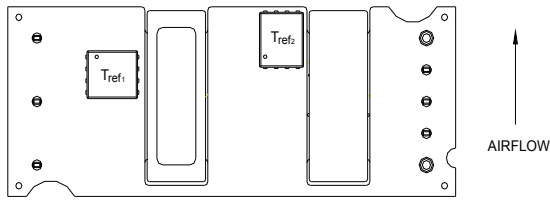
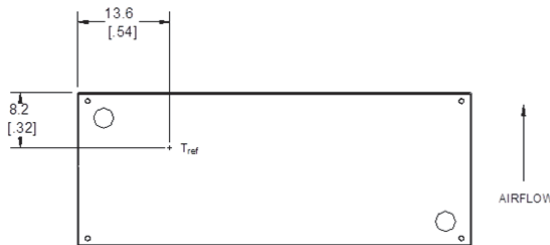

Figure 13.  $T_{ref}$  Temperature Measurement Locations for Open Frame Module.
Figure 14.  $T_{ref}$  Temperature Measurement Location for Module with Heatplate.
To provide protection under certain fault conditions, the unit is equipped with a thermal shutdown circuit. The unit will shutdown if the thermal reference point,  $T_{ref}$ , exceeds 122° and 123°C (Figure 13, typical or 105 °C (Figure 14, typical),, but the thermal shutdown is not intended as a guarantee that the unit will survive temperatures beyond its rating. The module will automatically restart upon cool-down to a safe temperature.
The thermal reference points,  $T_{ref1}$  and  $T_{ref2}$ , used in the specifications for open frame modules are shown in Figure 13. For reliable operation these temperatures should not exceed 122° and 123°C respectively.
The thermal reference point,  $T_{ref}$ , used in the specifications for modules with heatplate is shown in Figure 14. For reliable operation this temperature should not exceed 100 °C.